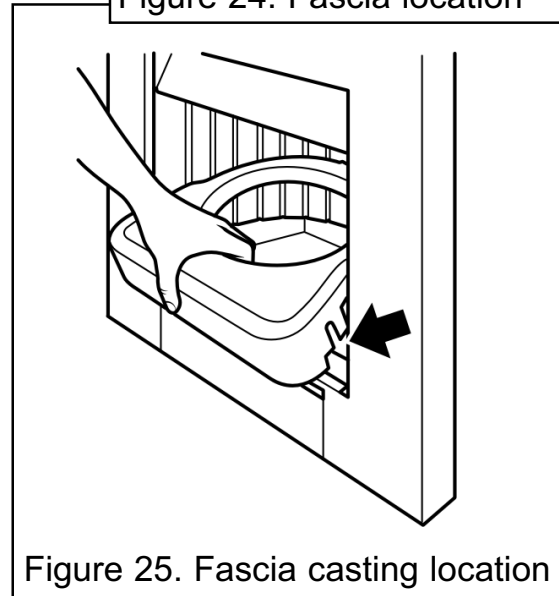

Figure 25. Fascia casting location
2. Unpack the fascia casting and lower into the hotbox as in figure 25. The side of the casting has slots that locate over the front of the burner unit (See figure 25). At the rear of the casting there is a small shelf. This should locate under the ribbed panel. After locating the casting gently push the front of the casting.